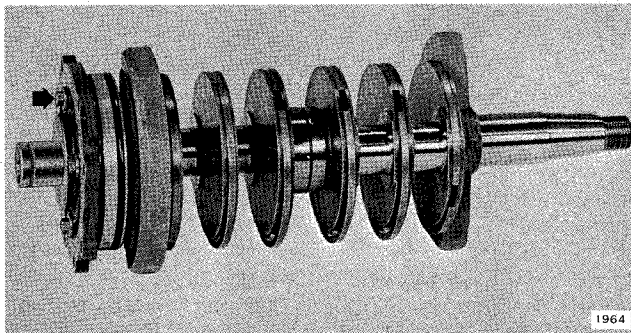

Figure 5-13. Bearing Retainer Plate Screws
d. Remove four screws (lower crankcase head to lower bearing retainer plate) and remove lower crankcase head from crankshaft. See Figure 5-13. Use Truarc pliers No. 4 (Special Tool #307429) to remove retaining ring under bearing.